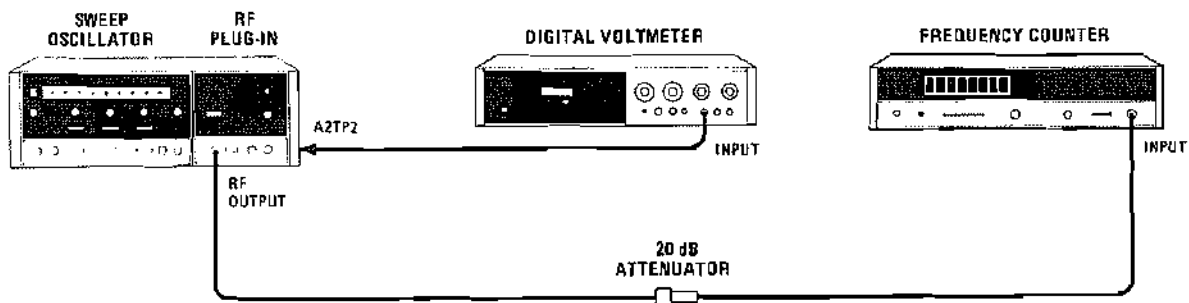

Figure 5-2. YIG Driver Frequency Adjustments Test Setup
1. Connect equipment as shown in Figure 5-2.